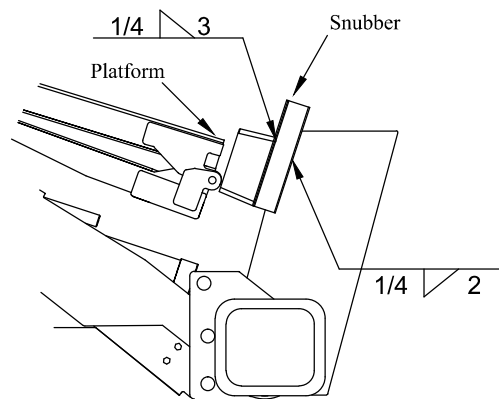

Figure 15: Snubber kit location.
4. **Weld** the snubber kit in position so that the platform will compress the rubber pads 1/4" when the platform is stowed (Figure 15).